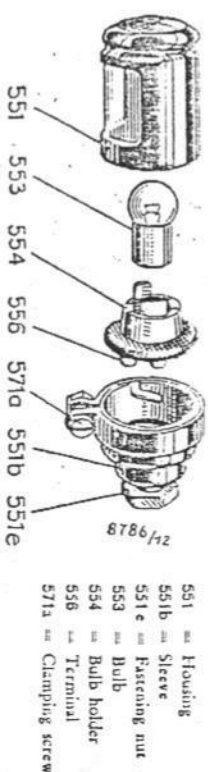

Fig. 13. Number-plate lamp JN 5, dismantled.
a) Number plate lamp JN 5 (Fig. 13).
- Loosen tension screw (Fig. 13).